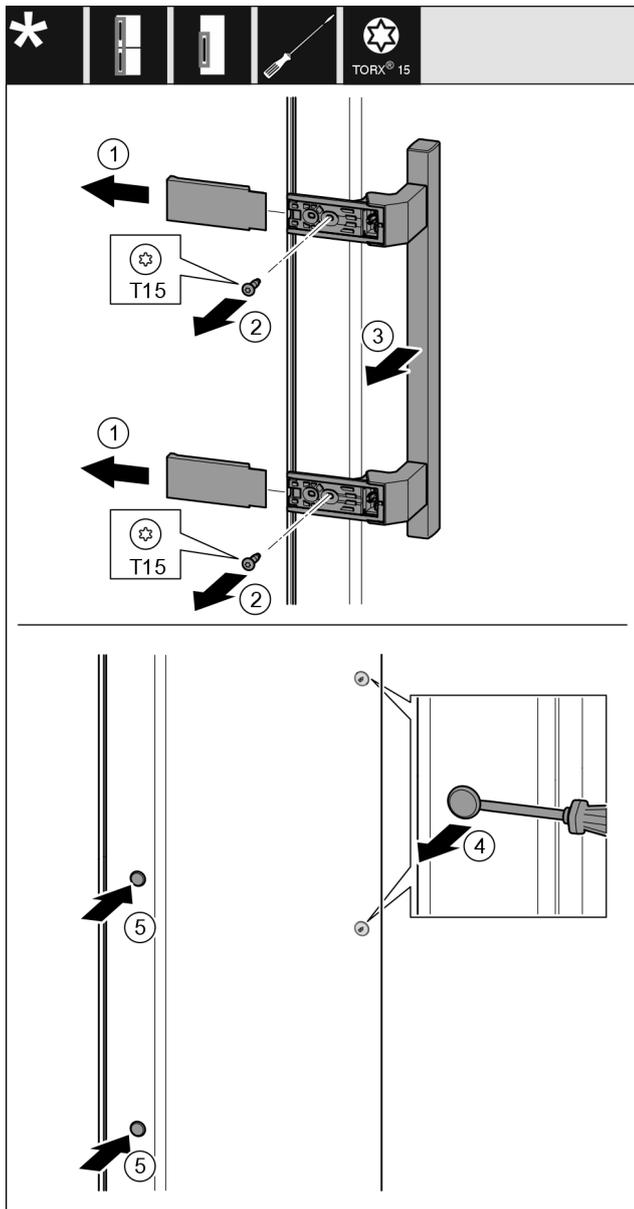

Fig. 42
- ▶ Remove the cover Fig. 42 (1).
- ▶ Unscrew screws Fig. 42 (2) with screwdriver.
- ▶ Remove the handle Fig. 42 (3).
- ▶ Use a slotted screwdriver to lift the side plug Fig. 42 (4) carefully and pull it out.
- ▶ Re-insert the plug Fig. 42 (5) on the other side.